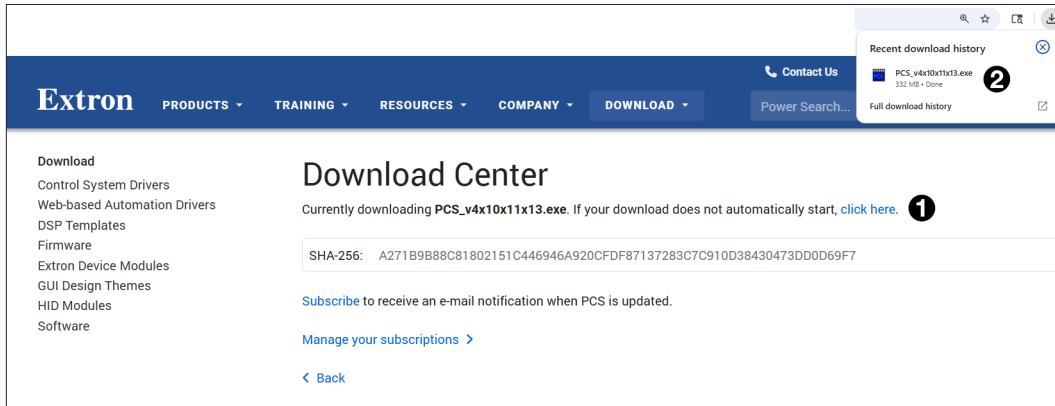

Figure 21. PCS Software Downloading
If the download fails to start, click the **click here** link (see figure 21, ①).